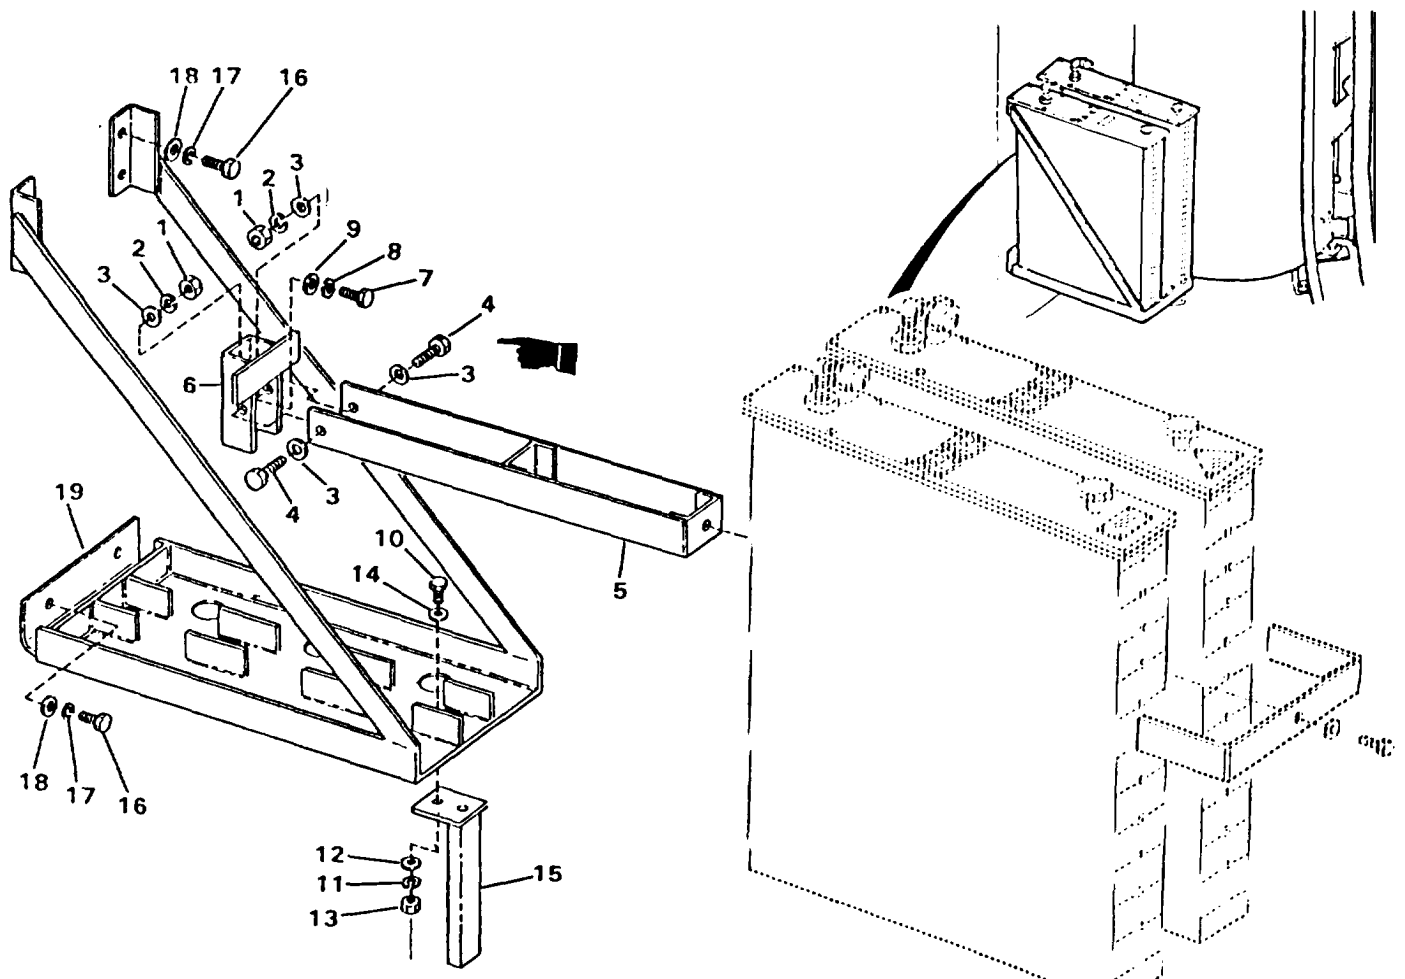

Figure 4-65. Chemical Tanks Frame
- a. Remove two nuts(1, Figure 4-65), two lockwashers (2), four washers(3) and two capscrews (4). Remove restraint rod (5) from restraint bracket (6).
- b. Remove capscrew (7), lockwasher (8), and washer (9), Remove restraint bracket (6).
- c. Remove two capscrews (10), two lockwashers (11), two washers (12), two nuts (13), and two washers (14). Remove kick bracket (15).
- d. Remove six capscrews (16), six lockwashers (17), six washers (18), and frame (19).